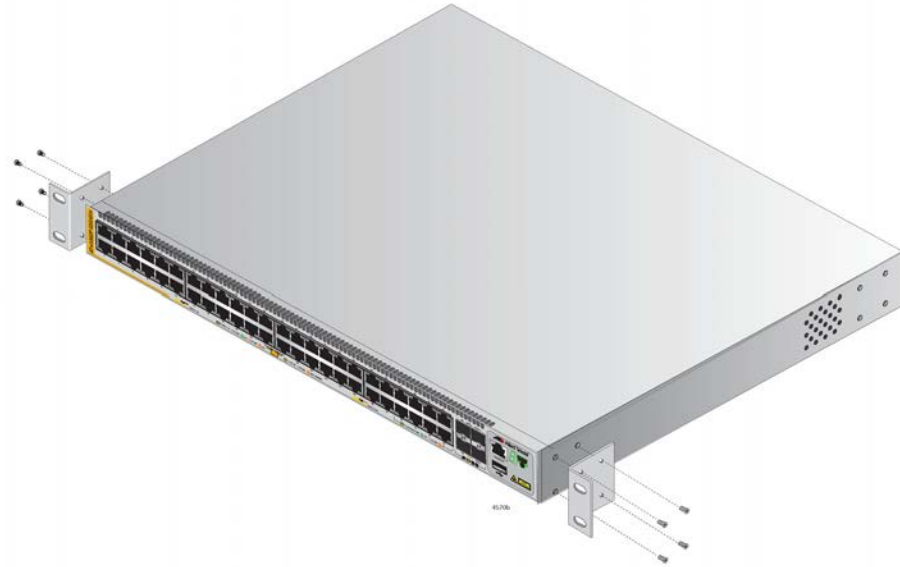

Figure 3. Example of Attaching the Brackets to the Switch
2. Attach the two brackets to the sides of the switch in the selected position, using the eight M4x6mm screws supplied with the unit. The illustration in Figure 3 shows the installation of the brackets such that the front panel of the switch is even with the front of the equipment rack.